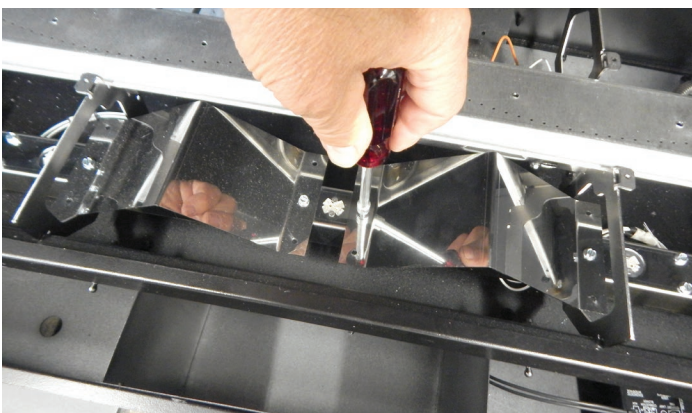
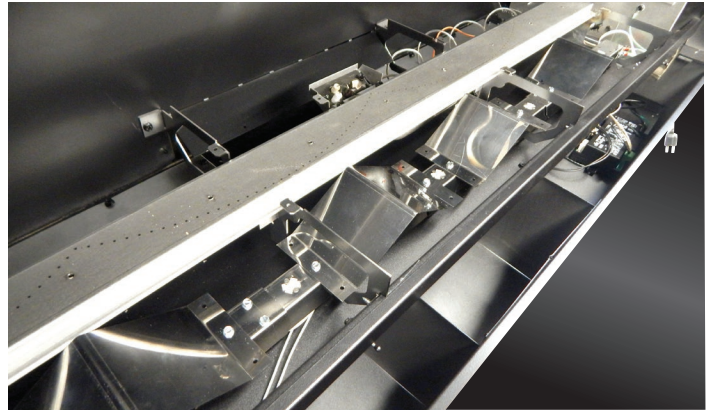

Figure 11
Figure 12
15. Attach the "V" shaped Deflectors to the Light bracket assembly. Two are required between the center burner brackets if installing in the DVLL36BP fireplace. Four "V" shaped Deflectors are to be installed when installing in the DVLL48BP fireplace. The Deflectors are placed between the light sockets and secured with (2) #8 X 1/4" Screws each. **See Figure 11** for DVLL36BP install, and **Figure 12** for DVLL48BP install.